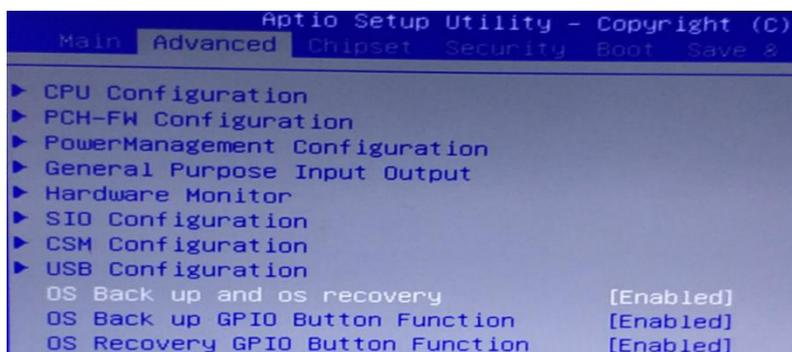

Figure 1 Operation interface
(1) Check : ① In the process of backup and recovery, the machine is not allowed to connect to external storage devices such as USB flash disk, or there will be errors in the backup and restore operations. ② We must ensure that the hard disk capacity is not less than 64GB.
(2) After starting up, you have to press the [delete] key immediately on the keyboard continuously to enter the operation interface of backup and recovery (as shown in figure 1).